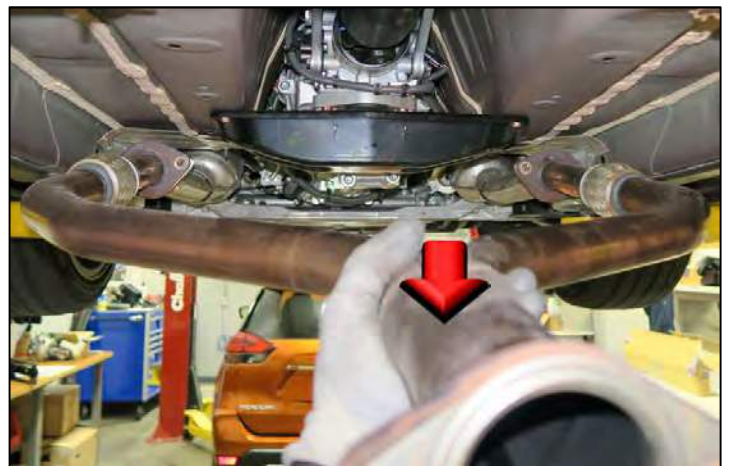

Figure 8
10. Remove the front exhaust tube assembly. (Figure 8)
- Remove and discard the (2) gaskets from the catalytic converter